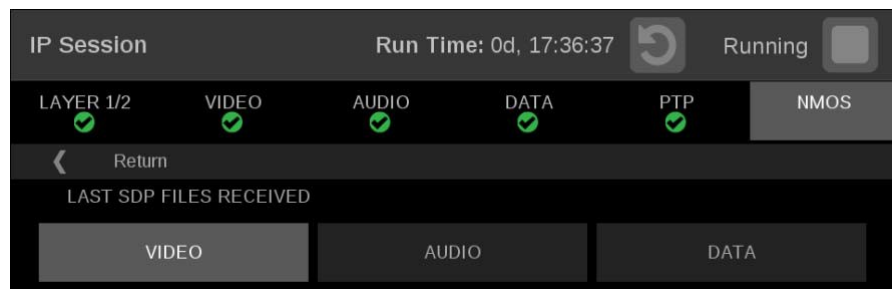

Figure 150: Last SDP File Received display
- **Last SDP File Received:** Select the Last SDP File Received tab view video, audio, and data SDP files. These files contain information used to configure input signals from the registration servers. (See Figure 150.)